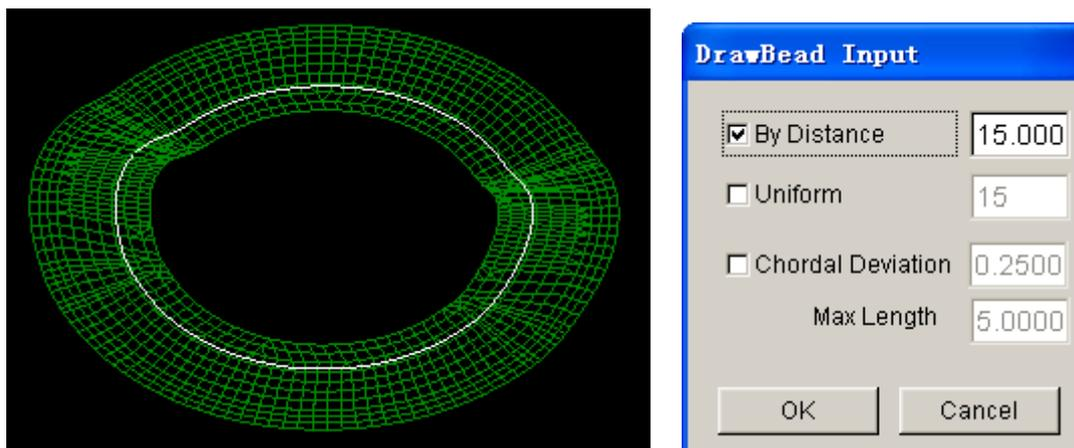

Figure 7.34 Drawbead parameters setting
17. Use your mouse cursor to pick the highlighted drawbead line illustrated in Figure 7.34. The DRAWBEAD INPUT dialog box is displayed.